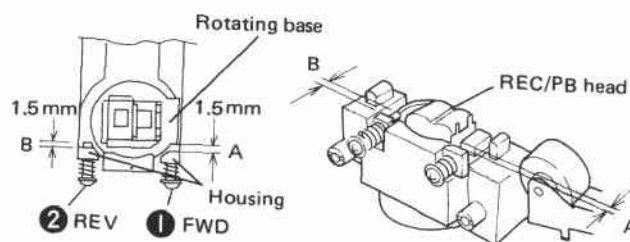

Fig. 11-2 Azimuth adjustment point
2. Adjust the azimuth screw ① using a (-) screwdriver as shown in Fig. 11-2, 3 so that the distance (A) between housing and rotating base is 1.5 mm.
4. Adjust the azimuth screw ② using a (-) screwdriver as shown in Fig. 11-2, 3 so that the distance (B) between housing and rotating base is 1.5 mm.